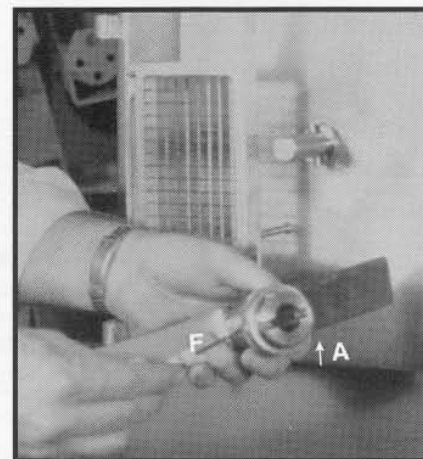

FIGURE 4
REFERENCE FIGURE 1 (Page 4) AND FIGURE 4 (Page 2).
CAUTION: Knife is sharp. Remove F — Knife Assy. from E — Disc by loosening the Nylon Lock Screw and removing the adjustment ring. [Figure 4] [Note: Threads are left hand.] Reinstall adjustment ring onto Knife assy. and SNUG nylon lock screw when proper adjustment is made. [See instructions for knife adjustment later in this brochure.]
1. Loosen nylon lock screw. [Figure 4(A)]
3. Snug nylon lock screw (A).